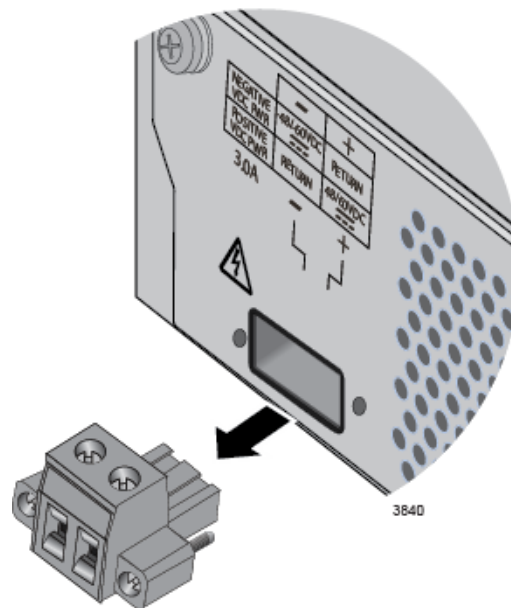

Figure 28. Removing the DC Connector
2. Slide the DC connector from the chassis. Refer to Figure 28.